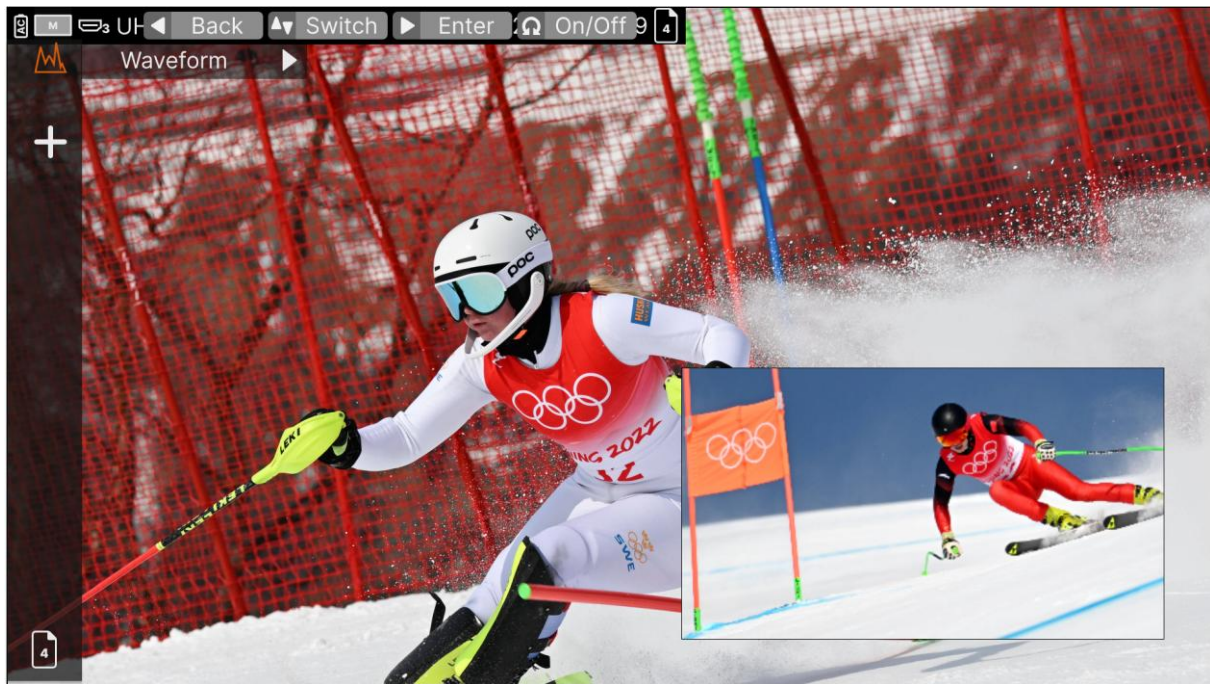

Figure 6.1-17 Activate Waveform Tool
- ☐ Activate the PIP function: In the current MySet, scroll right the joystick to display the tool menu on the left side of the screen. Select the Waveform tool, then rotate the joystick clockwise to activate it. The **Waveform** icon will highlight in orange, and the PIP sub-screen will be displayed, as shown in Figure 6.1-17.